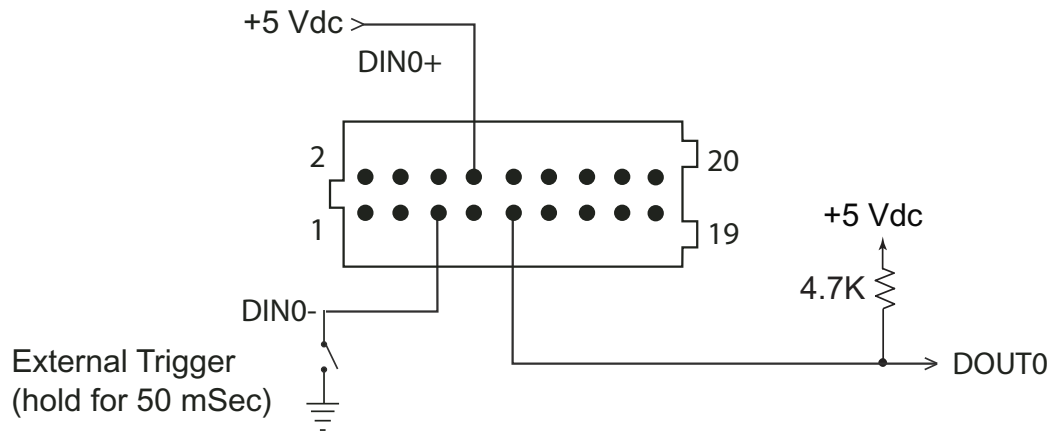

Figure 14—Typical Digital Input Trigger Circuit
12. As shown in Figure 14, apply +5 Vdc to DIN0+ (Pin 8) on SCON1.